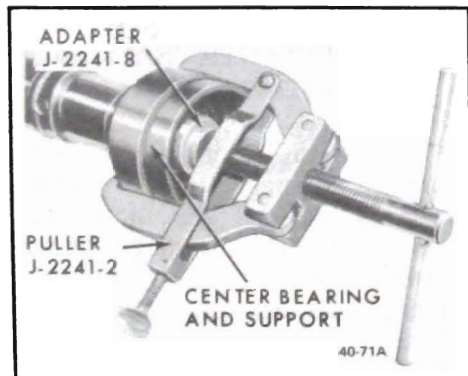

Figure 40-68 - Removing Center Support and Bearing
2. Place the smaller O.D. end of Adapter J-2241-8 (Differential side carrier bearing puller adapter, 1955 and previous) into the splines of the propeller shaft. Position Differential Side Bearing Puller J-2241-2 as shown in Figure 40-68. Pull the center support and bearing assembly from the propeller shaft. Leave the slinger (shield) in position on the shaft.